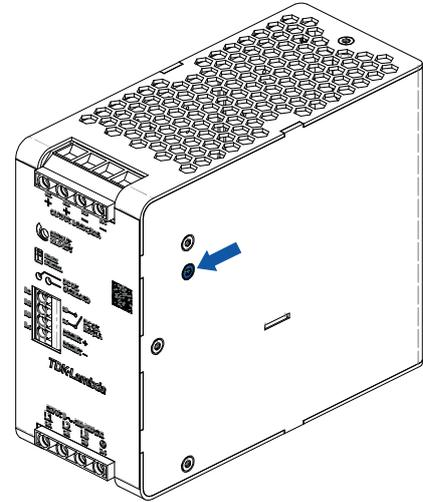

Fig. 32: Position of the connection screw for the GDT
- 1) Completely remove the connection screw (marked with an arrow) with a Torx X10. (see Fig. 32)